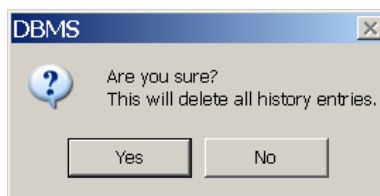

Figure 20. Database | Create History Dialog | Edit Menu | Clear History Message Box
- **Edit | Clear History** displays the warning message shown in Figure 20. Click **Yes** to clear the contents of the **History** dialog or **No** to cancel. This function does not delete any entries from the database, but rather entries in the **History** dialog. It's handy for starting over when creating a history file.